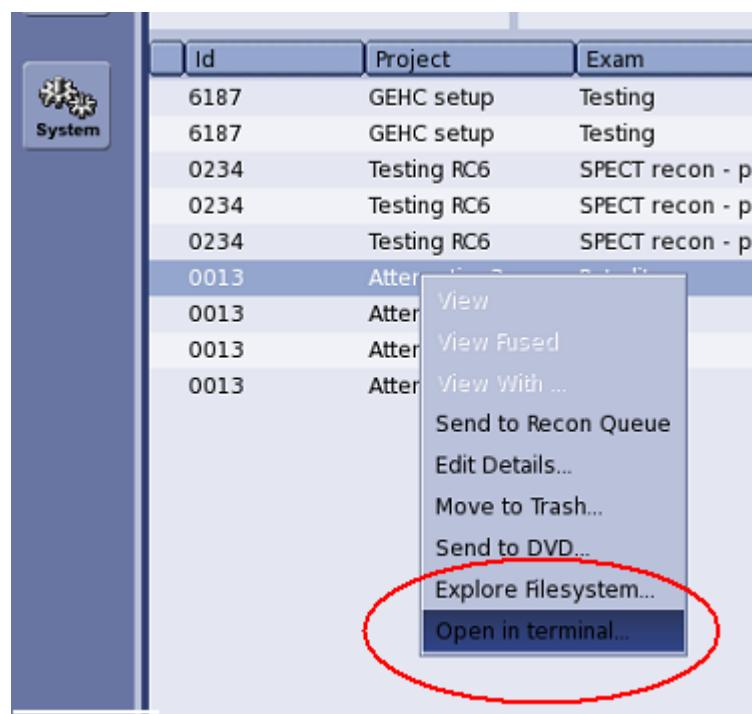

Figure 7-39
- a. Go to the scan directory, Scan_xxxx. To do this, navigate to the explorer page, select the SPECT data set and find the most recent result. Right click on the acquisition in the details list and choose “Open in Terminal” from the menu (Figure 7-39). A console terminal window will appear.